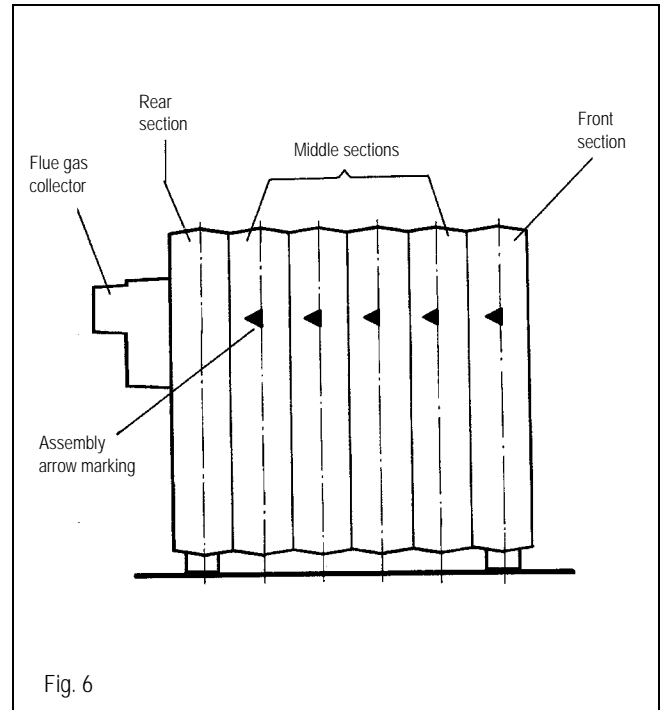

Fig. 6
The arrow markings on the sections must point to the rear (Fig. 6) and use the sequence in Table 5.
- Note the arrow marking on each section. These arrows are located on the top left and right of each section and must point to the rear during boiler assembly (Fig. 6).